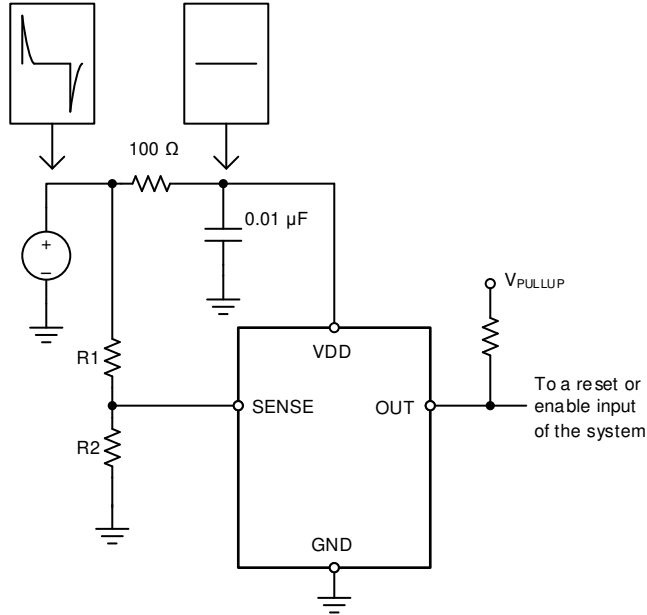

Figure 7-5. Using an RC Filter to Remove High-Frequency Disturbances on VDD
The TPS3711 has a 40-V absolute maximum rating on the VDD pin, with a recommended maximum operating condition of 36 V. If the voltage supply that provides power to VDD is susceptible to any large voltage transient that may exceed 40 V, or if the supply exhibits high voltage slew rates greater than 1 V/ μs , then place an RC filter between the supply and VDD to filter any high-frequency transient surges on the VDD pin. In these cases, a 100- Ω resistor and 0.01- μF capacitor are required, as shown in Figure 7-5.
- Avoid using long traces for the VDD supply node. The VDD capacitor (C_{VDD}), along with parasitic inductance from the supply to the capacitor, might form an LC tank and create ringing with peak voltages above the maximum VDD voltage. If long traces are unavoidable, see Figure 7-5 for an example of filtering VDD.